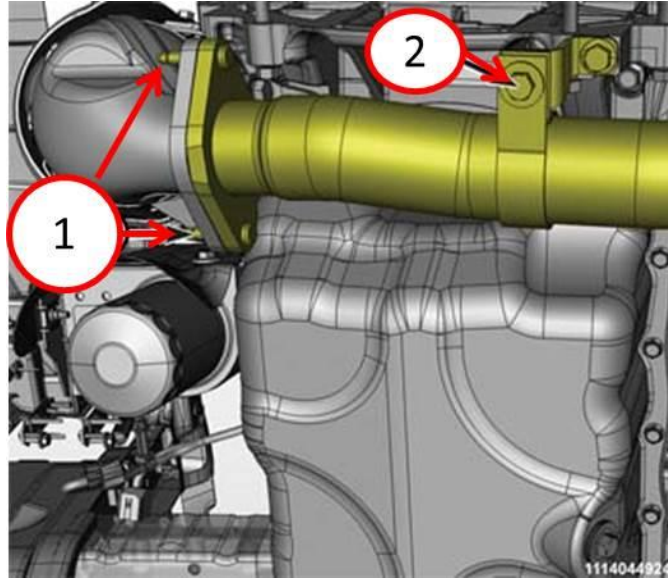

Fig. 2 Crossunder Pipe
3. Remove and discard the nuts (1) from the exhaust flange at the cross under pipe at catalytic converter outlet flange (Fig. 2).
5. Remove and save the bolt (2) from the exhaust bracket securing the cross under pipe (Fig. 2).
10. Install new nuts (1) to the exhaust flange at the cross under pipe (Fig. 2). Tighten to 25 N·m (18 ft.lbs).
11. Reinstall the bolt (2) to the exhaust bracket securing the cross under pipe (Fig. 2). Tighten to 25 N·m (18 ft.lbs).